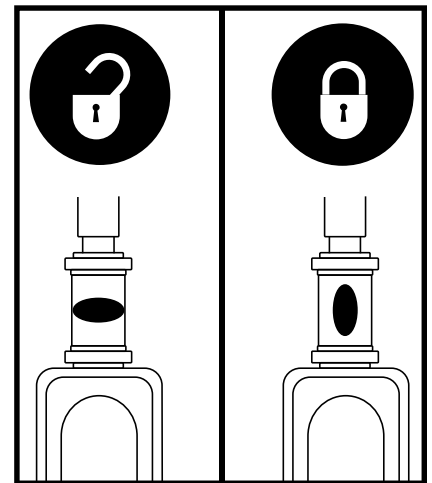

Figure 32. Tiller Lock Knob
2. Lock the tiller in the straight ahead position by pushing the tiller lock knob in and turning it clockwise 90°. See figure 32. The front wheel must face forward in order to lock the tiller.
1. Remove the key from the key switch and then lock the tiller in the straight ahead position by pushing the tiller lock knob in and turning it clockwise 90°. See figure 32. The front wheel must face forward in order to lock the tiller.
6. Unlock the tiller by turning the tiller lock knob 90° counterclockwise. **See figure 32.**